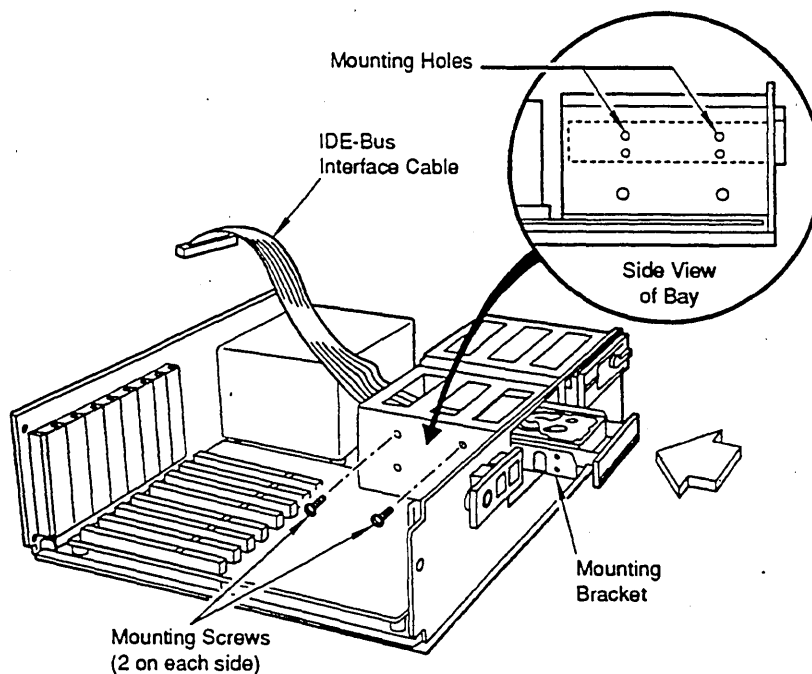

Figure 3-8 Drive Installation
3. Secure the drive to the system chassis by using the mounting screws, as shown in Figure 3-8.